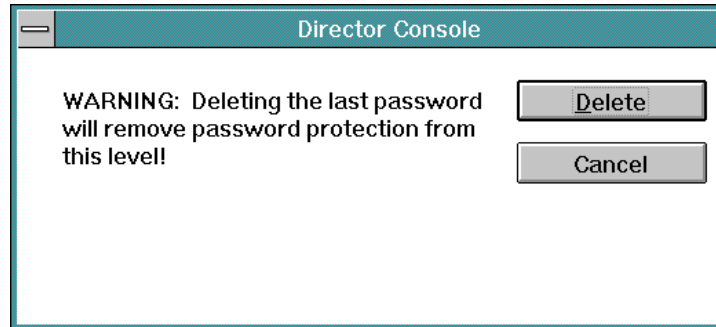

Figure 179. Delete Password Warning Dialog Box
6. **If the password to be deleted is the last password in the list box for the selected level, password protection is disabled for all operations at that level.** When the *Delete* button is selected at the *Passwords* dialog box, the following dialog box appears (Figure 179).